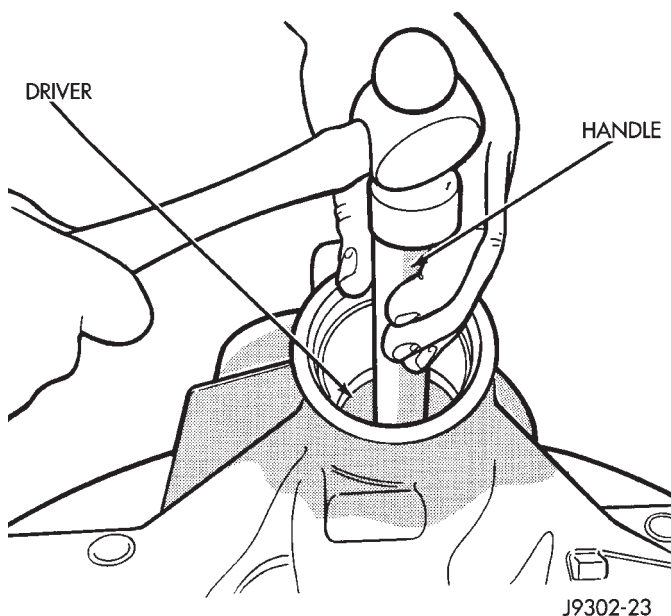

Fig. 44 Rear Bearing Cup Removal
- (8) Remove the rear pinion bearing cup from axle housing (Fig. 44). Use Remover D-149 and Handle C-4171.
- (9) Remove the depth shims from rear pinion bearing cup bore in axle housing. Record the thickness of the depth shims.